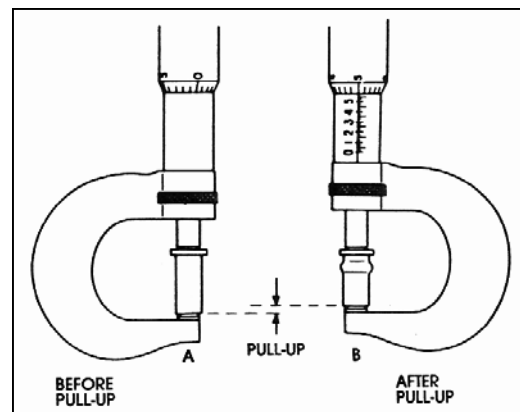

Figure 3 - Measuring Rivnut Pull-Up
1. Measure and record over-all length of Rivnut or Plusnut fastener (A,fig 3).
4. Measure and *record* over-all length of pulled-up Rivnut or Plusnut fastener (B,fig 3). Record the difference between measurement of Rivnut or Plusnut fastener before pull-up, (A,fig 3) and after pull-up, (B,fig 3). *This is the amount of pull-up for which the Header is now adjusted.* This information is essential to the next step of determining the amount of pull-up required.